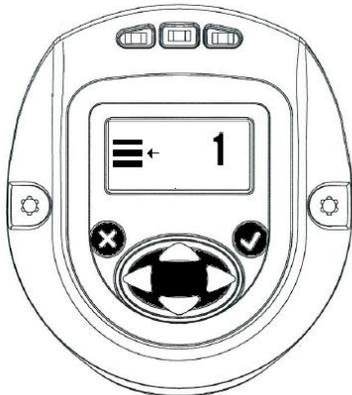

Figure 11: This is the configuration selection page. Here you can choose between 8 unique configurations.
2. Now, they should be able to scroll up one screen to get to a screen that resembles figure 11. This is the configuration selection page.